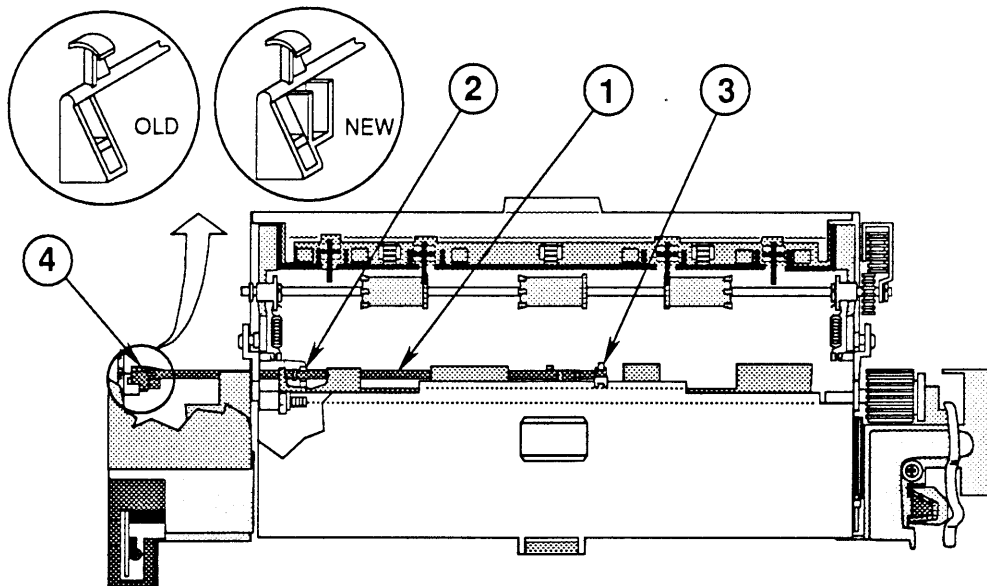

FIGURE 23
There are two versions of the delivery sensing lever. In the new version, the shape of the weight (Figure 23, #4) has been changed to correct an intermittent paper jam problem.
2. Carefully pull the delivery sensing lever (Figure 23, #1) out of the fuser assembly.
1. Place the delivery sensing lever in position (Figure 23, #2). Note that the end of the arm fits into the center holding tab (Figure 23, #3).